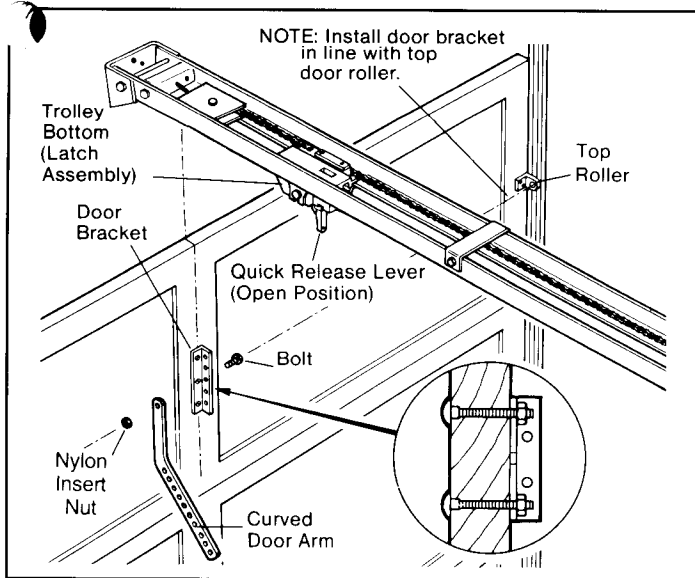

Figure 14
The right-angled portion of the bracket (which contains the door arm adjustment holes) should be mounted at the center-line of the door with the outward facing angle to the right (see Figure 14). Note that the middle of the mounting bracket should be in line with the top rollers at the sides of the door. To install, use the door bracket as a template and mark position of top and bottom bolt locations on door and drill 1/4" holes. Note that the carriage bolts should be inserted through the bracket from the outside of the door.
Step 32: Attach the curved door arm to the center hole on the bracket with a keps nut and bolt (see Figure 14).